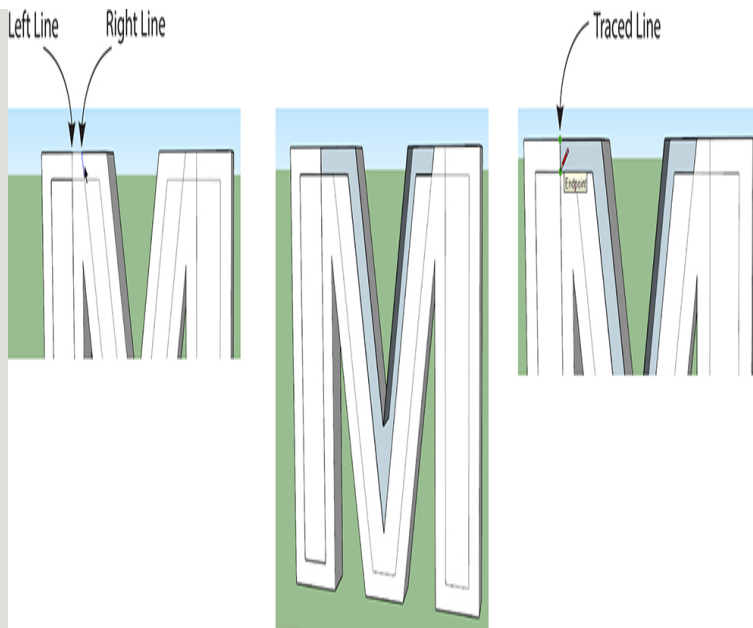

Figure 3-95 Erasing the left line removed too many faces, but erasing the right line only removed a few. Faces can often be repaired by tracing one line.
4. Clean up the *M* (Figure 3-95). The offset *M* needs to be completely inside the larger *M* with no overlap. So you'll need to erase some lines and draw some lines, which can require some experimentation. For instance, erasing a line may cause faces to disappear. This can often be fixed by tracing one line with the Pencil. However, if tracing doesn't restore the faces, redraw the erased line, and try erasing a different line. Workflow order often makes all the difference in a good result. In this case, erasing the left line removed too many faces to fix. But erasing the right line removed just a few faces, which were easily fixed. Then I was able to erase the left line, and it didn't take any faces with it.